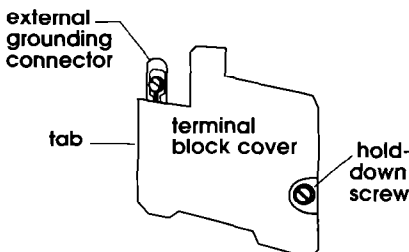

Figure 5
6. Insert tab of terminal block cover into slot of the dryer rear panel (see Figure 5). Secure cover with hold-down screw.